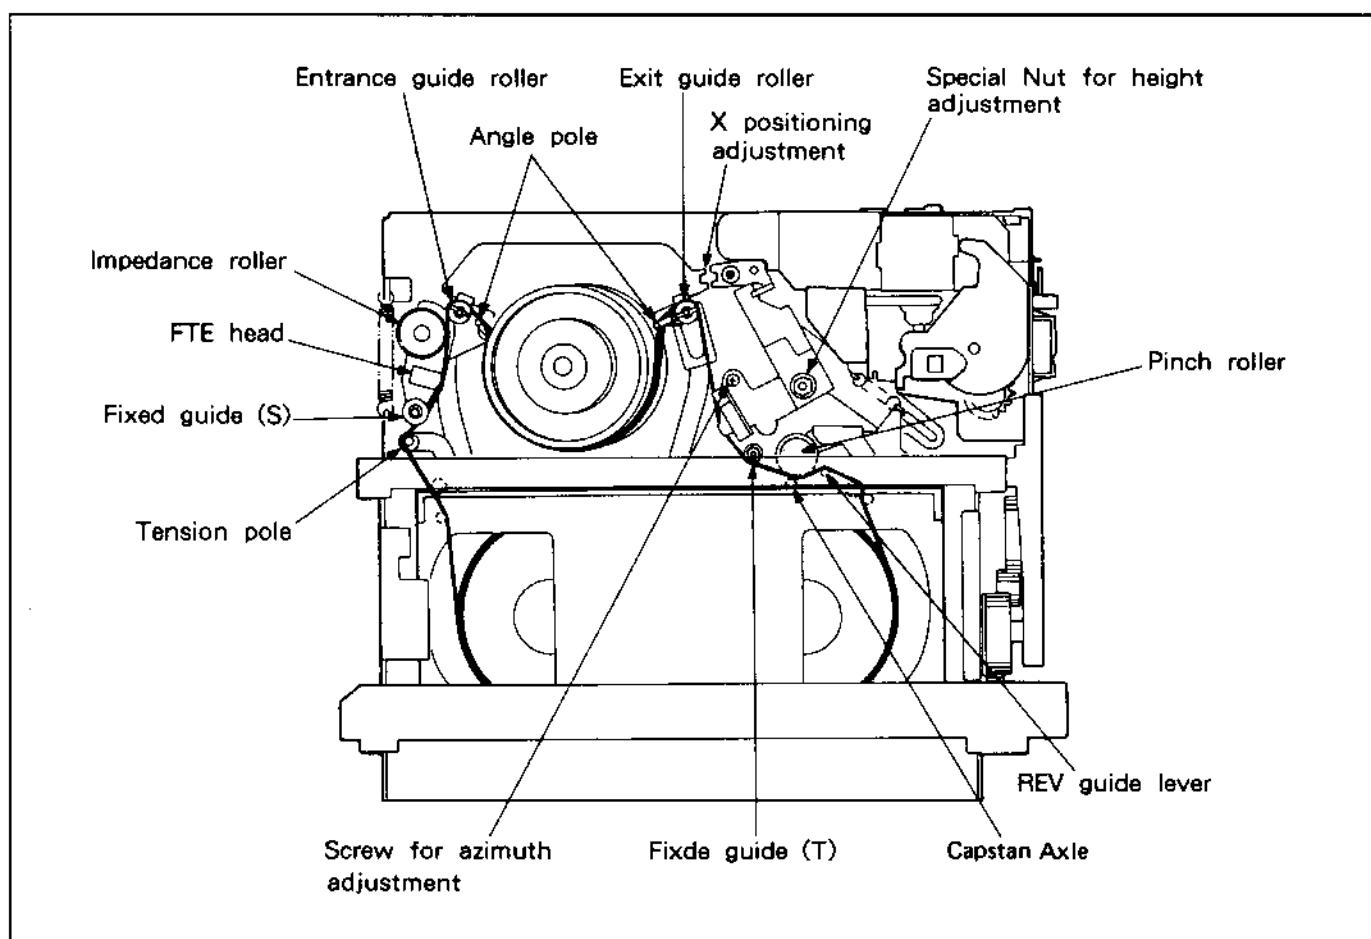

Fig. 5-4-1. Preparation for Adjustment
The tape path mechanism is precisely adjusted at the factory. Normally no readjustment is required, but checking and/or adjustment is necessary when parts of the tape path mechanism among those shown in the figure below (See Fig. 5-4-1.) have been removed or replaced after a long period of use. This operation consists of adjusting the various guides so that the tape drawn out from the supply reel runs smoothly along the DRUM (CYLINDER) lead surface. A way of grasping the tape path condition by electronic means is monitoring the video head output envelope waveform with an oscilloscope. However, the fact that visual observation is essential in order to know whether the tape is running through the various guides in a smooth and natural way should be kept in mind when checking and adjusting.
- (1) Clean the tape transport surfaces. (See Fig. 5-4-1.)
- (2) Connect the oscilloscope. Connect the channel 1 probe to the envelope waveform test point, and the channel 2 probe to the SW25 (RF SW P) test point. During adjustment, apply a trigger to the L side of the SW25 (RF SW P) in order to monitor the waveform output from channel 1 of the video head.
- (3) Use a dentist's mirror for visual observation of tape path condition.
- (4) Use an eccentric driver (VHJ-0003) for adjustment of the guide rollers.
- (5) When adjusting height of the guide rollers or COMPL HEAD BRACKET, turn the special nut or the upper flange clockwise to push the tape downward, and counterclockwise to make the tape rise up.
- (6) Do not use damaged cassette tapes for tape path adjustment.